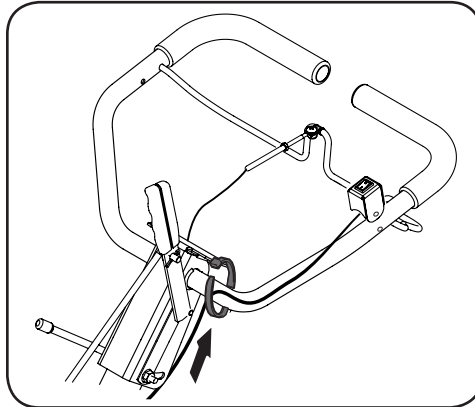

Figure 2-5
3. Route the wire over to the left side of the handle and secure with a cable tie on the lower part of the handle. See Figure 2-5.